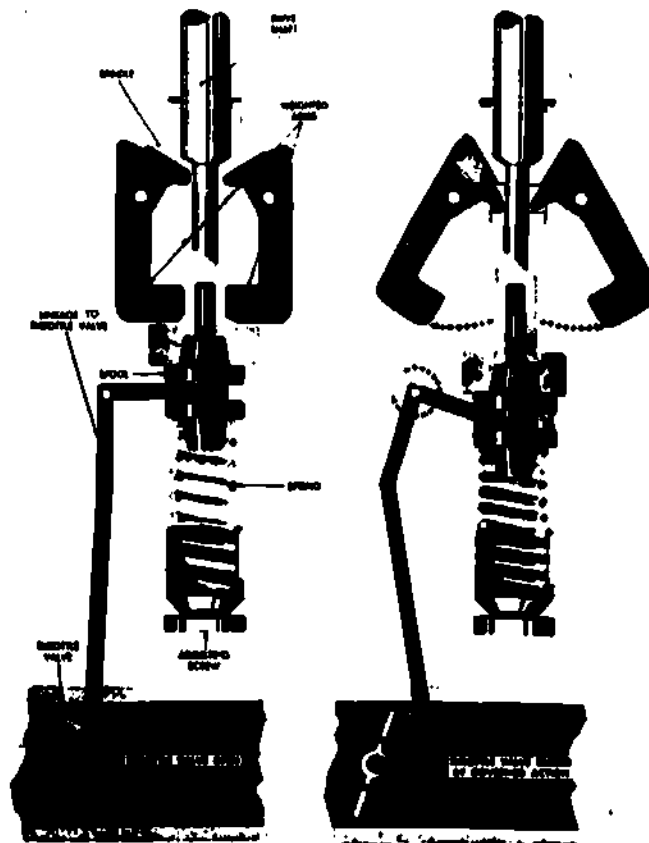

Fig 1-37. Centrifugal governor.
a. Centrifugal governor. The centrifugal governor operates on the principle that a moving object will try to travel in a straight line. In its basic form a centrifugal governor has two weighted arms pivoted or hinged on a spindle. At low engine speeds the weighted arms are held close to the spindle shaft by a spring. Notice in figure 1-37 that the spindle is connected to the throttle valve by linkage. The spindle and weighted arms are rotated by the engine. When the engine reaches the maximum speed for which the governor is set, the weights overcome the tension of the spring and move outward. The governor thus limits the amounts of fuel mixture delivered to the cylinders.